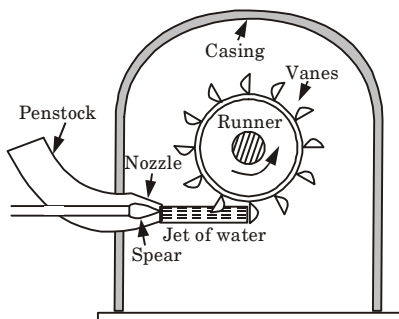

Fig. 4.11.1. Pelton turbine.
1. Fig. 4.11.1 shows the casing of a Pelton wheel turbine.